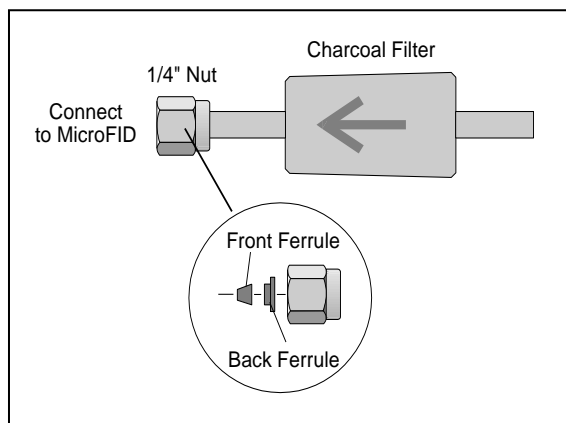

Figure 3 Connecting the Charcoal Filter
1. Load the Teflon ferrules into the nut. The nut and ferrules are supplied with the filter. See Figure 3.